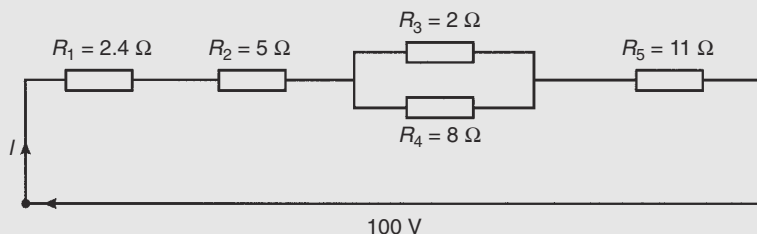

Figure R2.1
- Resistances of $5\ \Omega$, $7\ \Omega$, and $8\ \Omega$ are connected in series. If a 10 V supply voltage is connected across the arrangement determine the current flowing through and the p.d. across the $7\ \Omega$ resistor. Calculate also the power dissipated in the $8\ \Omega$ resistor. (6)
- For the series-parallel network shown in Fig. R2.1, find (a) the supply current, (b) the current flowing through each resistor, (c) the p.d. across each resistor, (d) the total power dissipated in the circuit, (e) the cost of energy if the circuit is connected for 80 hours. Assume electrical energy costs 14p per unit. (15)
- The charge on the plates of a capacitor is 8 mC when the potential between them is 4 kV . Determine the capacitance of the capacitor. (2)
- Two parallel rectangular plates measuring 80 mm by 120 mm are separated by 4 mm of mica and carry an electric charge of $0.48\ \mu\text{C}$. The voltage between the plates is 500 V . Calculate (a) the electric flux density (b) the electric field strength, and (c) the capacitance of the capacitor, in picofarads, if the relative permittivity of mica is 5. (7)
- A $4\ \mu\text{F}$ capacitor is connected in parallel with a $6\ \mu\text{F}$ capacitor. This arrangement is then connected in series with a $10\ \mu\text{F}$ capacitor. A supply p.d. of 250 V is connected across the circuit. Find (a) the equivalent capacitance of the circuit, (b) the voltage across the $10\ \mu\text{F}$ capacitor, and (c) the charge on each capacitor. (7)
- A coil of 600 turns is wound uniformly on a ring of non-magnetic material. The ring has a uniform cross-sectional area of 200 mm^2 and a mean circumference of 500 mm . If the current in the coil is 4 A , determine (a) the magnetic field strength, (b) the flux density, and (c) the total magnetic flux in the ring. (5)
- A mild steel ring of cross-sectional area 4 cm^2 has a radial air-gap of 3 mm cut into it. If the mean length of the mild steel path is 300 mm , calculate the magnetomotive force to produce a flux of 0.48 mWb . (Use the B–H curve on page 74) (8)